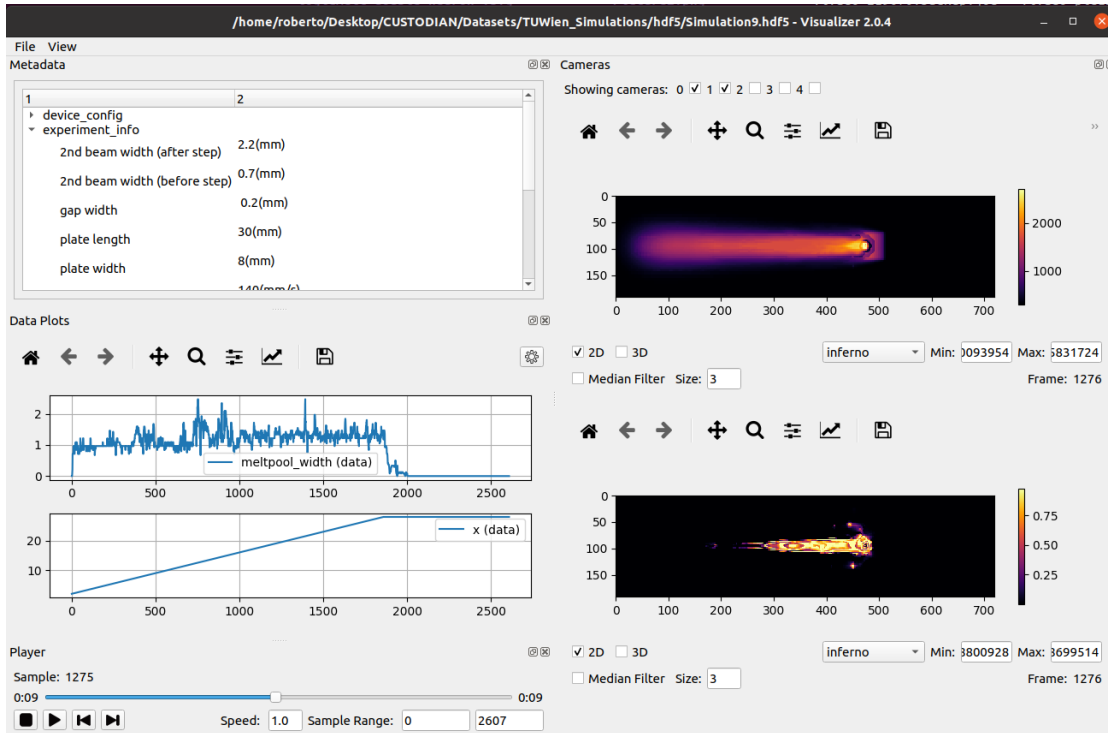

Fig.3 HDF5 file of Experiment 9 open with AIMEN Visualizer.
- AIMEN Visualizer program (see Fig. 3): Attached with the dataset is an executable for an HDF5 program called Visualizer from AIMEN technology center that lets you open the hdf5 files, visualize image and scalar data and export data to other formats (csv, png, etc.). This executable is for Windows.